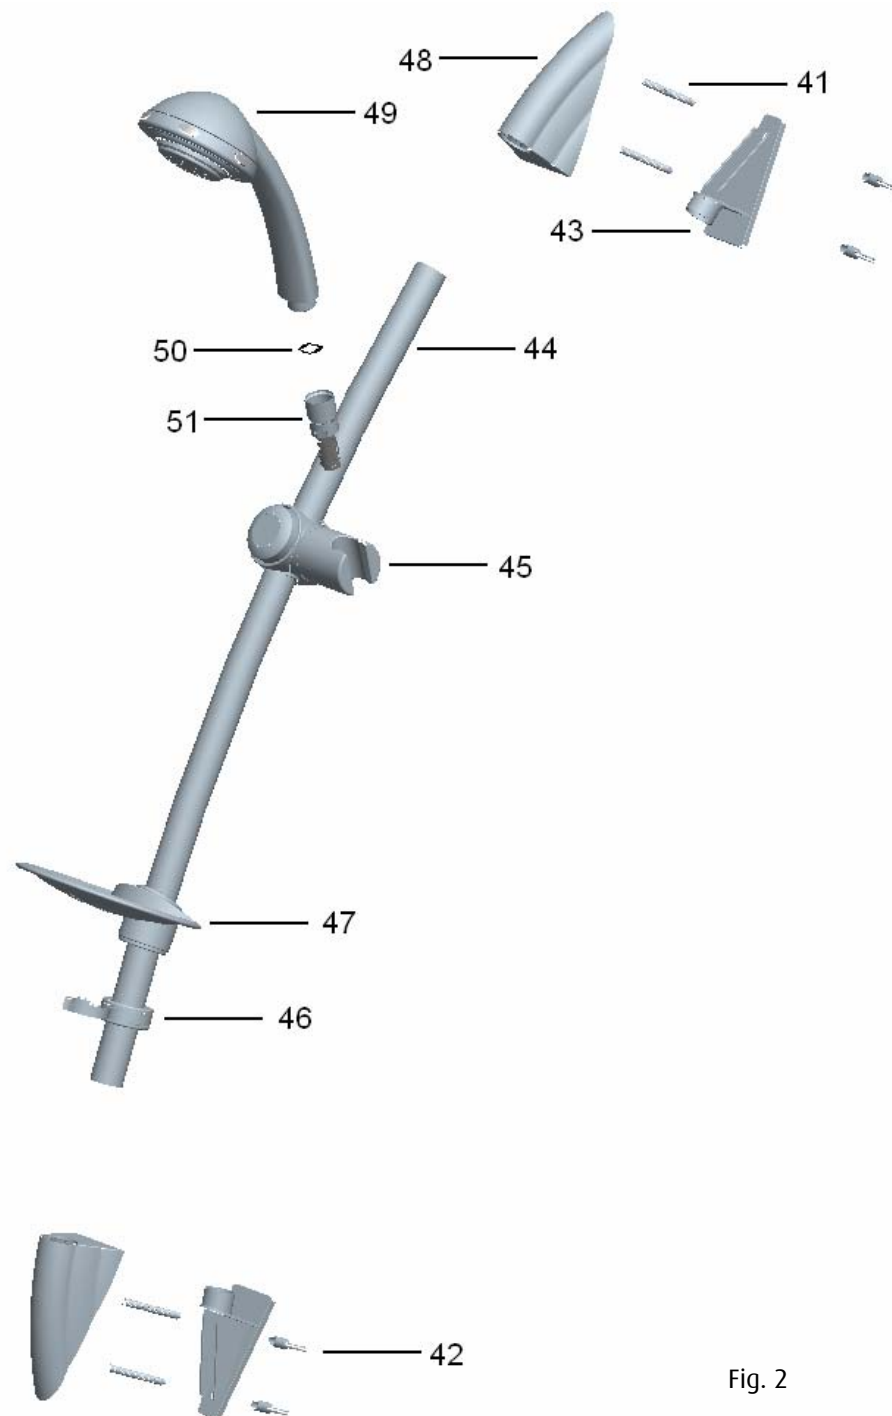

Fig. 2
4.5 Adjustable Riser Installation (See Fig. 2)